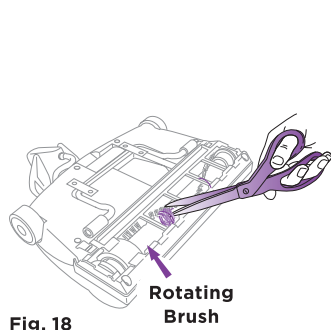

Fig. 18
- 1 Disconnect the power nozzle and turn it over to inspect the bottom. If a build-up of debris is wound around the rotating brush, remove by carefully cutting with scissors. Avoid damaging or cutting the bristles. (Fig. 18)